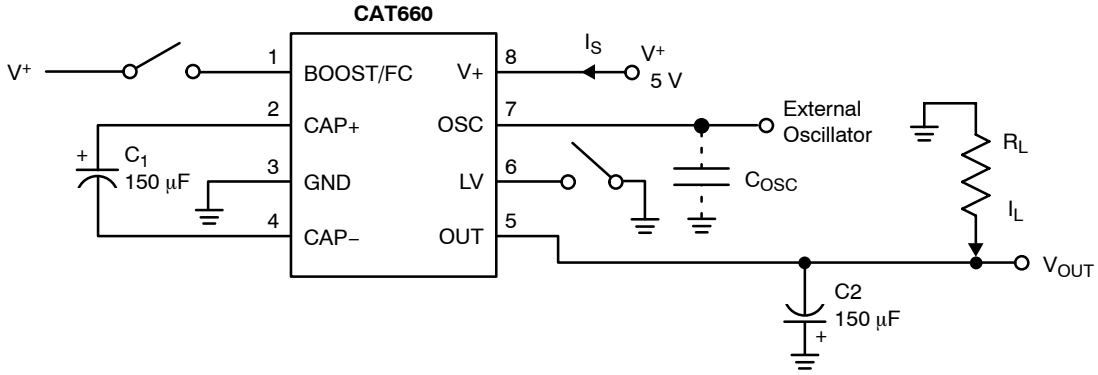

Figure 3. Test Circuit
Table 3. ELECTRICAL CHARACTERISTICS (V+ = 5 V, C1 = C2 = 150 μF, Boost/FC = Open, C_{OSC} = 0 pF, inverter mode with test circuit as shown in Figure 3 unless otherwise noted. Temperature is over operating ambient temperature range unless otherwise noted.)
4. In Figure 3, test circuit capacitors C1 and C2 are 150 μF and have 0.2 Ω maximum ESR. Higher ESR levels may reduce efficiency and output voltage.
(Typical characteristic curves are generated using the test circuit in Figure 3. Inverter test conditions are: $V_+ = 5\text{ V}$, $LV = \text{GND}$, $\text{BOOST/FC} = \text{Open}$ and $T_A = 25^\circ\text{C}$ unless otherwise indicated. Note that the charge-pump frequency is one-half the oscillator frequency.)